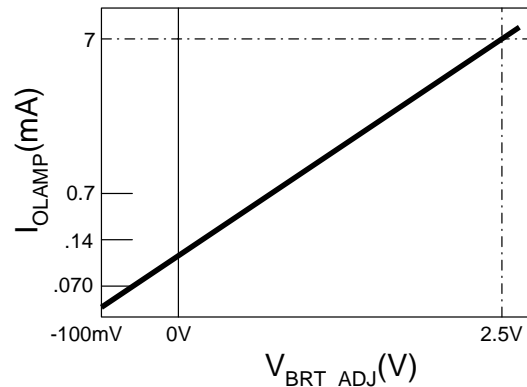

Figure 9 – Average Lamp Current vs.  $V_{BRITE}$  Voltage (per Lamp)
1. By varying the input voltage on the brightness pin as indicated in Figure 9. Caution must be exercised when applying negative voltage to the brightness control input. Applying more than  $-300\text{mV}$  to any inverter input will cause inverter malfunction (see Absolute Maximum Ratings).